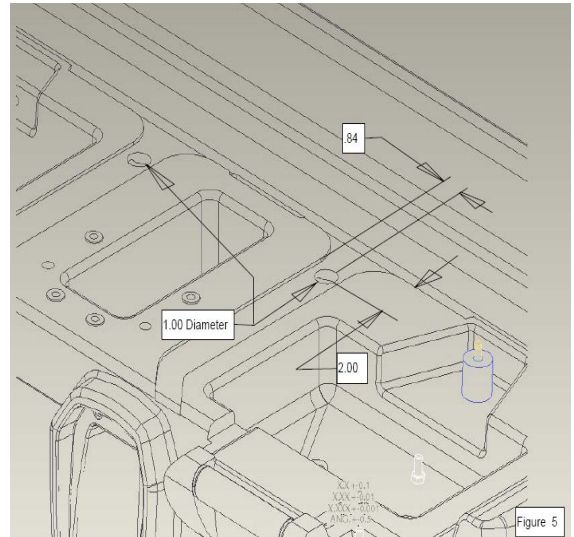

Figure 5
STEP 9. Using the dimensions shown in figure 5, locate, mark and drill (2)1.00 Diameter holes in the top of seat base. Locate one hole on each side of the centre compartment. Note; Locating depression marks may already be in the seat base.